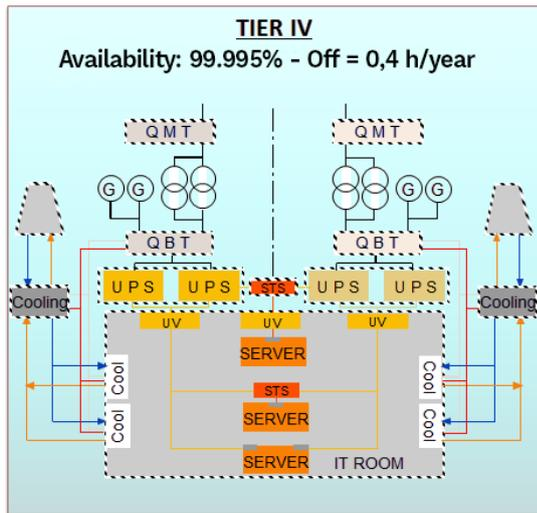

Fig. 12
**Fail-safe power supply network** (Fig. 12)